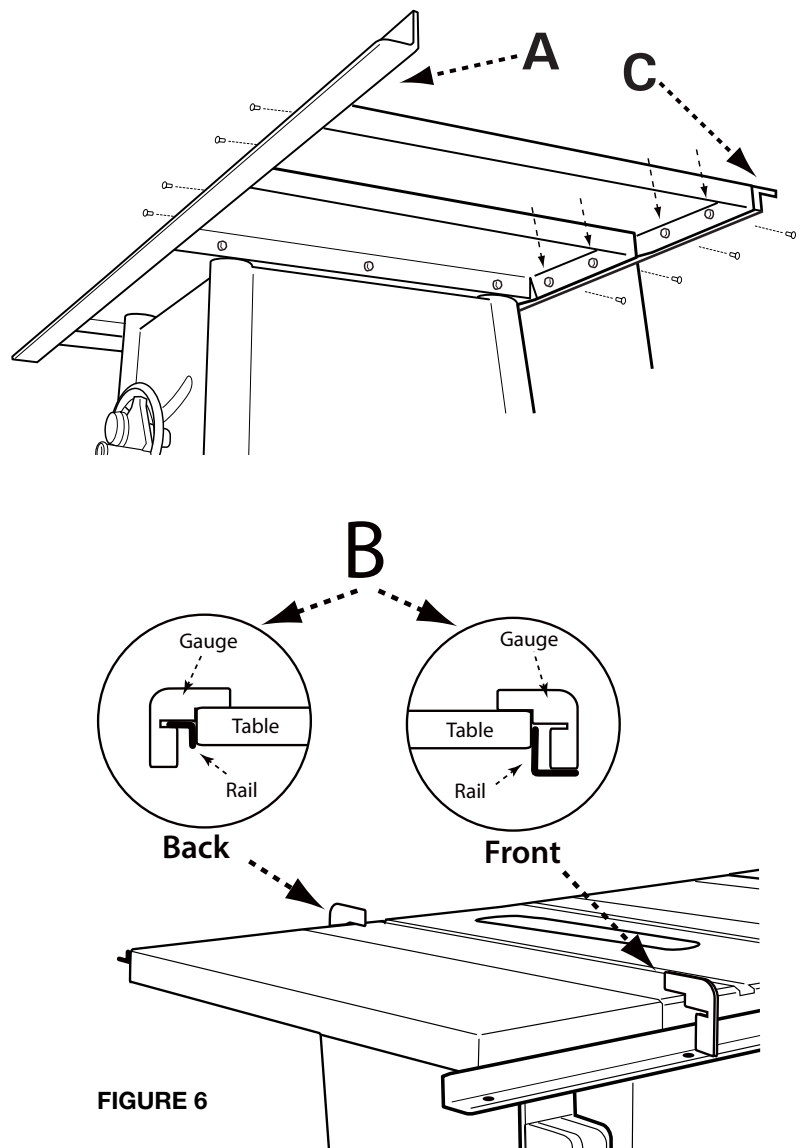

FIGURE 6
2. Attach the front rail (A) (2" x 2" x 57" for the 30" rip capacity models), (2" x 2" x 79" for the 52" rip capacity models), to the saw table and extension wings using 5/16-18 x 1 1/8" flat hd screws. Align the holes in the rail with the hole in the table and extension wings.
3. Use supplied rail alignment gauge (B) to ensure the rail is the proper distance from the top of the table at each side of the cast iron table. (fig 6) Then use the alignment gauge to set the same proper distance for the extension wings.
5. Use supplied rail alignment gauge (B) to ensure the rail is the proper distance from the top of the table at each side of the cast iron table. (fig 6) Then use alignment gauge to set the same proper distance for the extension wings.